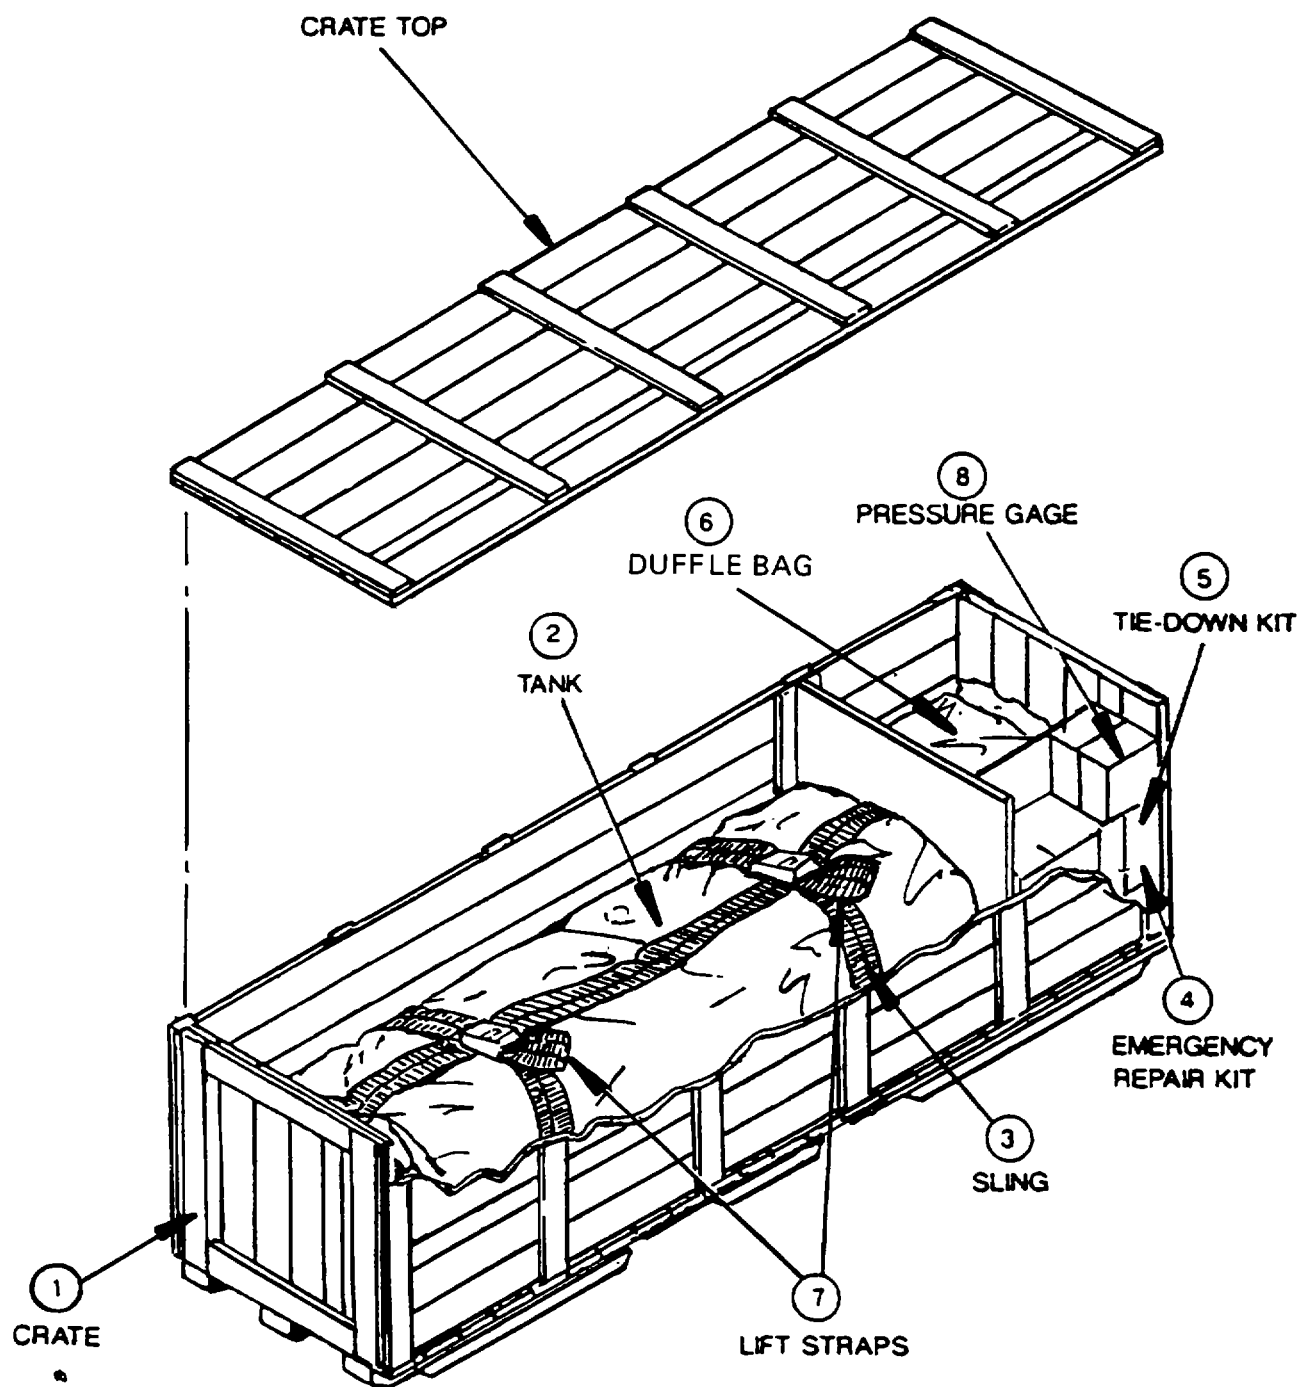

Figure 2-1. Crated Assembly
- (1) Remove the nails from the crate top and remove crate top from crate. (Fig. 2-1.)
- (1) Using a lifting device, such as a forklift or crane, take hold of the sling by its lift straps (7, Fig. 2-1) and place the tank on the semi-trailer in such a manner that the tank will unroll towards the rear of the trailer. The tank ends should be near or touching the trailer bulkhead.
- (2) Remove the straps from the buckles on the sling assembly and unroll and unfold the tank over the tie-down straps. Visually inspect tank while unrolling. Position it so that when it is full, the ends or sidewalls of the tank will not rub against the forward bulkhead or hang over the sides of the trailer. Remove the sling assembly from under the tank and place it in the trailer stowage compartment.